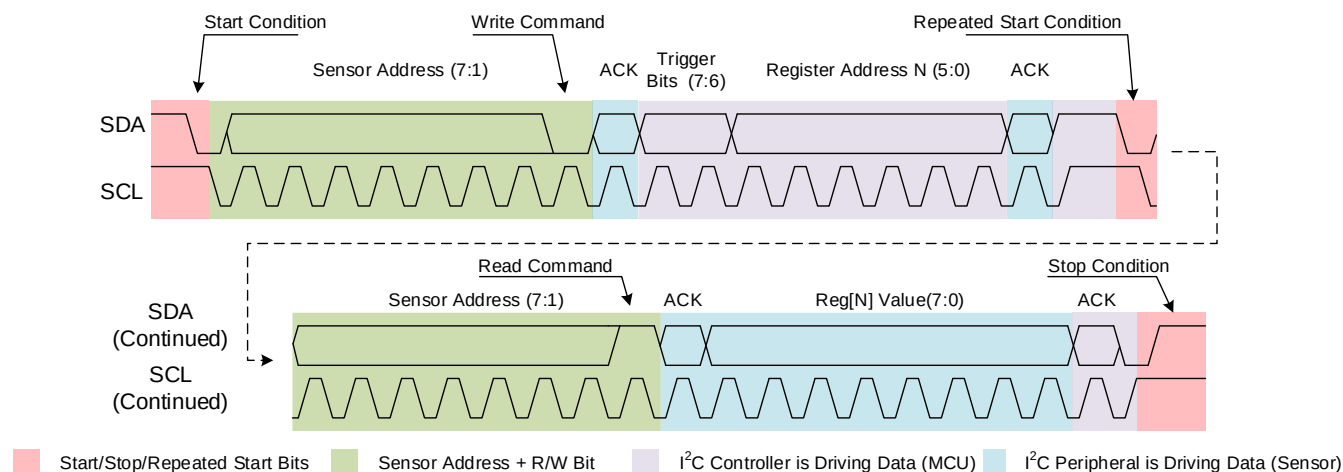

Figure 15: I²C Read Mode with Repeated Start
Communication starts by sending the start condition, then the controller sends the sensor address and write command (0) (see Figure 15). The next byte contains the 2-bit trigger and the